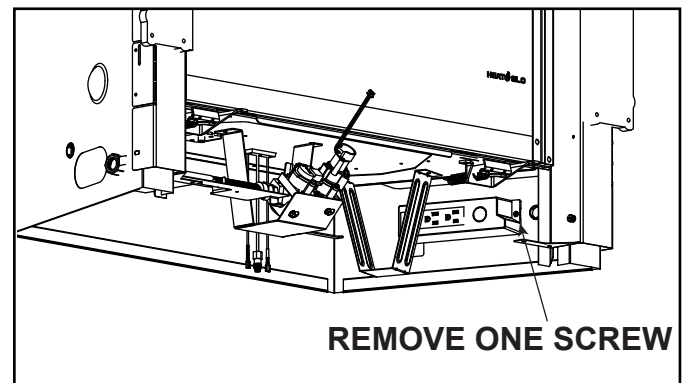

Figure 8.3 Junction Box Detail - RAVE32-IFT-B
**RAVE32-IFT-B:** The junction box is secured to the fireplace outer wrap. Remove one screw. See Figure 8.3.